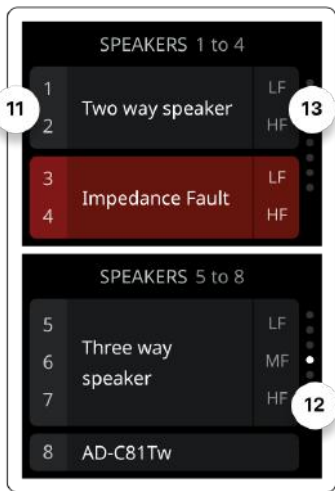

Fig. 1.8 - Multiple Ways presets
When a multi-way loudspeaker is present, blocks are represented as in Figure 1.8, where a two-way preset (11) and a three-way preset (12) are shown. Way labels (13) are also displayed in the block.